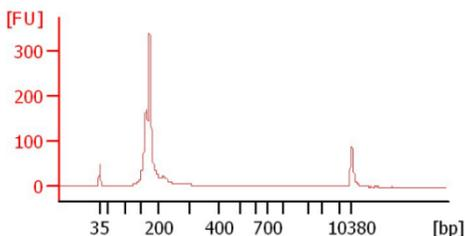

Figure 3. Bioanalyzer trace of miRNA-sized library prepared with the QIAseq miRNA Library Kit.
1. Analyze 1 μL of the miRNA Sequencing Library on an Agilent Bioanalyzer using a High Sensitivity DNA chip according to the manufacturer’s instructions. A miRNA-sized library is approximately 180 bp, and a piRNA-sized library is approximately 188 bp. Typical miRNA-sized library results are shown in Figure 3.